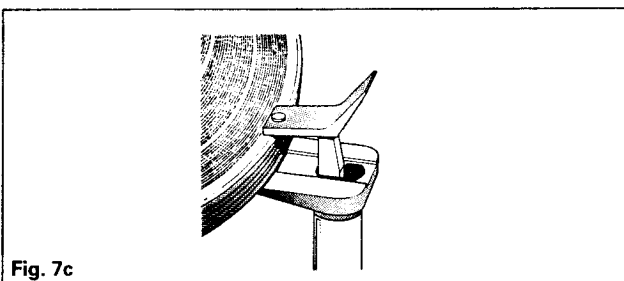

Fig. 7c
- 2 Place up to five $33\frac{1}{3}$ rev/min, 12in records on the spindle, with the edge of the lowest record resting on the support platform (7.8). Lift the record steady until it can be swung inwards and down to bear lightly on the top of the record stack. See figure 7c.